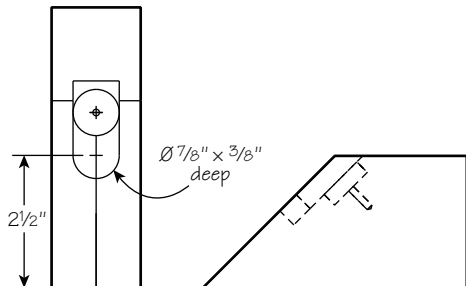

Figure 8: Cutting out the adjuster pocket.
7. Drill a $\frac{3}{8}$ " deep hole at the $2\frac{1}{2}$ " mark, using the $\frac{7}{8}$ " Forstner bit. Cut out the remaining material from the adjuster pocket with a chisel, as shown in **Figure 8**.